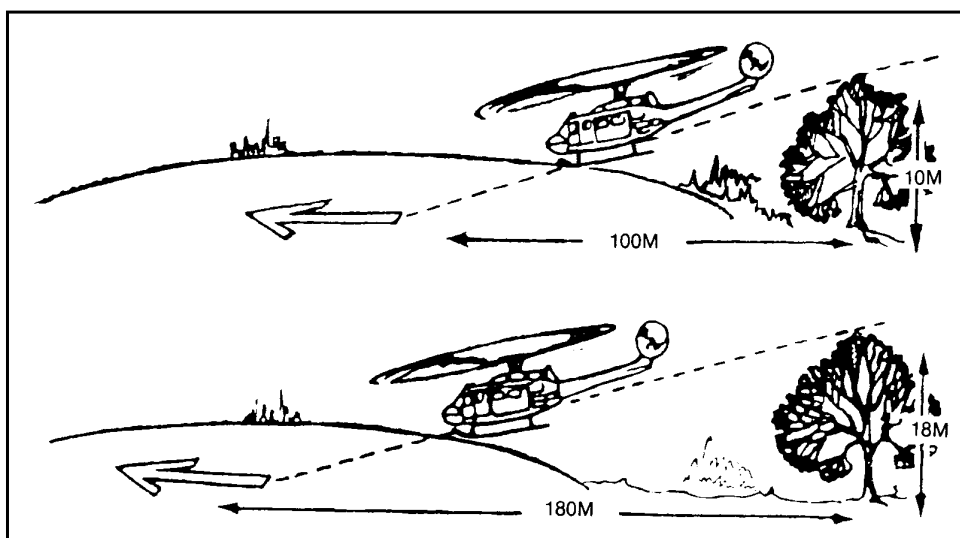

Figure 3-44
- (1) A helicopter requires a relatively level landing area 30 meters in diameter. This does not mean that a loaded helicopter can land and take off from an area of that size. Most helicopters cannot go straight up or down when fully loaded. Therefore, a larger landing site and better approach and departure routes are required.
- (2) When obstacles are in the approach or departure routes, a 10 to 1 ratio must be used to lay out the landing site (Figure 3-44). For example, during the approach and departure, if the helicopter must fly over trees that are 15 meters high, the landing site must be at least 150 meters long ($10 \times 15 = 150$ meters).